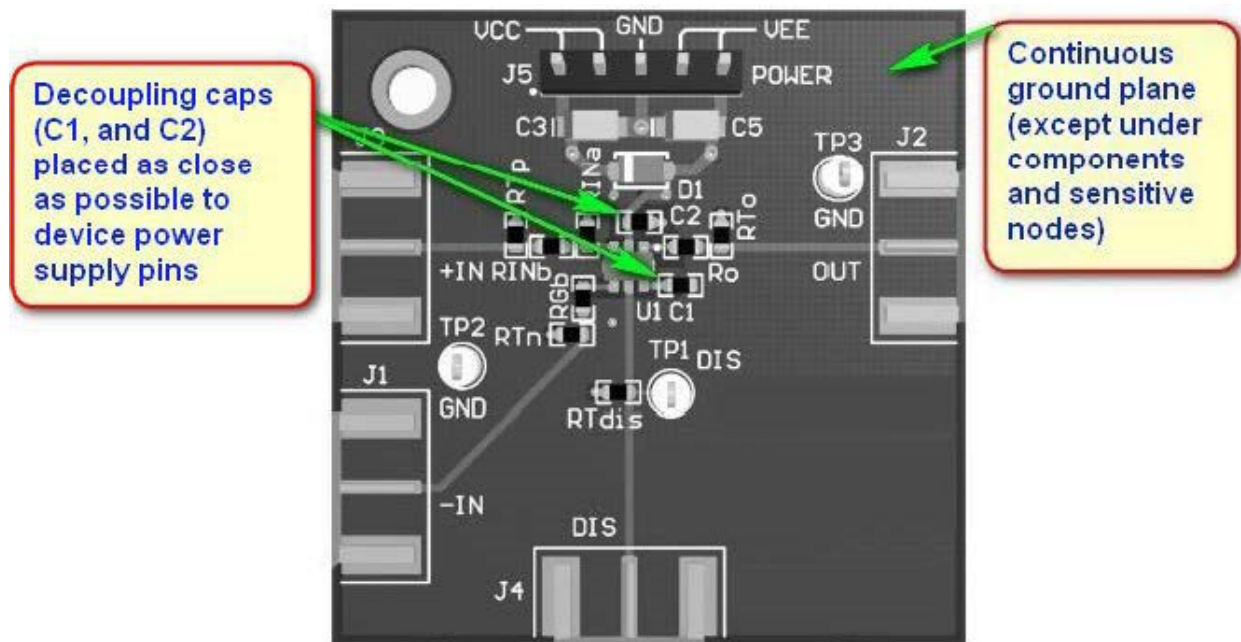
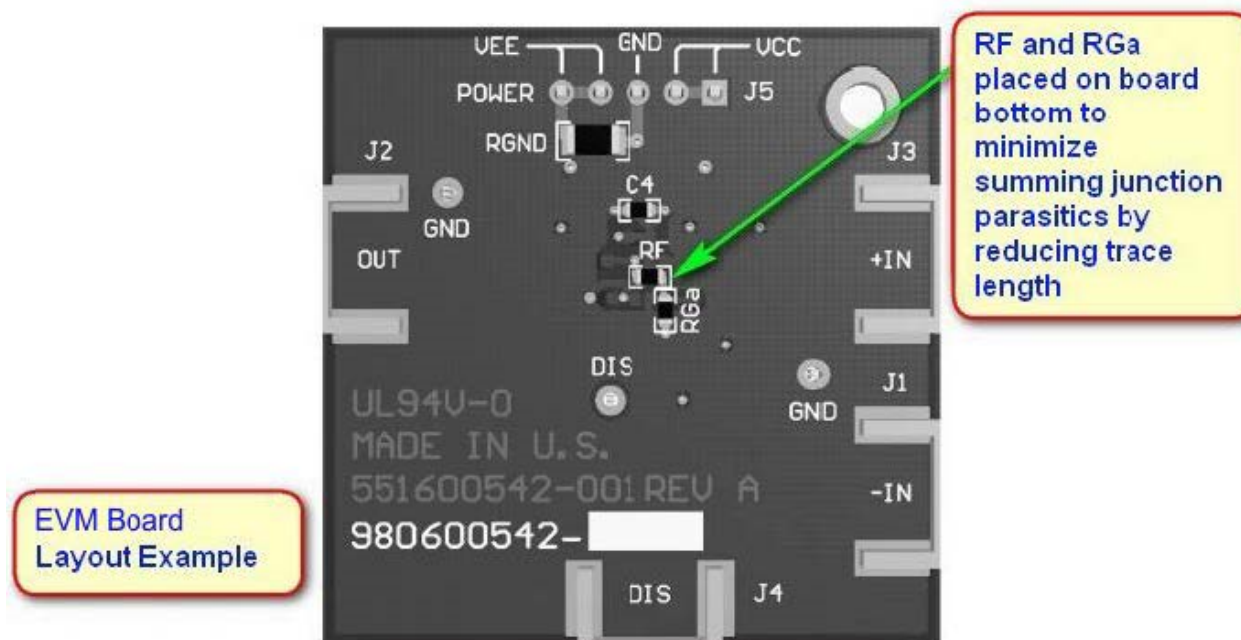

Figure 33. Evaluation Board Layer 1
Figure 34. Evaluation Board Layer 2
- Continuous ground planes are preferred for signal routing, as shown in Figure 33 and Figure 34, with matched impedance traces for longer runs. However, open up both ground and power planes around the capacitive sensitive input and output device pins.
- Use good, high-frequency decoupling capacitors (0.1 μ F) on the ground plane at the device power pins as shown in Figure 33. Higher value capacitors (2.2 μ F) are required, but may be placed further from the device power pins and shared among devices. For best high-frequency decoupling, consider X2Y supply-decoupling capacitors that offer a much higher self-resonance frequency over standard capacitors.
- The input summing junction is very sensitive to parasitic capacitance. Connect any R_f and R_g elements into the summing junction with minimal trace length to the device pin side of the resistor, as shown in Figure 34. The other side of these elements can have more trace length if needed to the source or to ground.